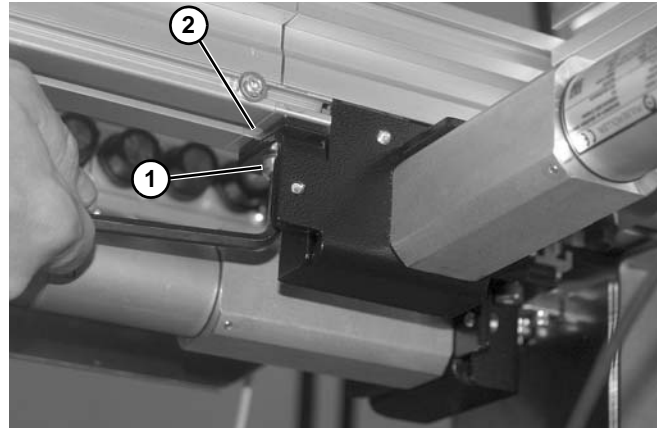

Figure 52
2. Remove screws (Figure 52, item 1) connecting the motor to the spring nuts (Figure 52, item 2) in the conveyor frame.